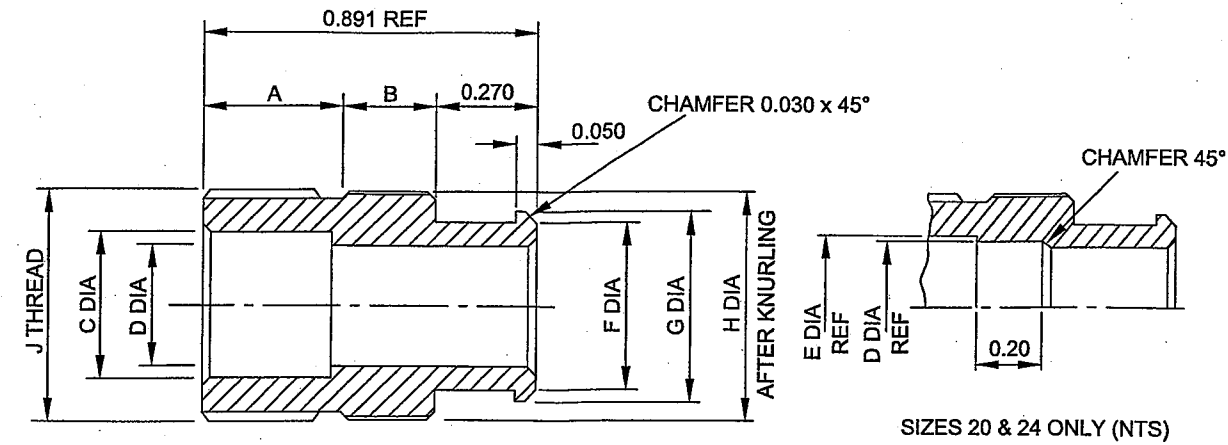

Fig 41 Sleeving adapter, 467, dimensions
29.3 Details of the 467 style are given in Fig 41 and Table 31.